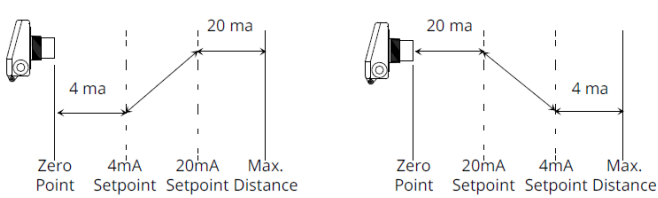

Figure 3.7
- 20 mA Set Point sets the distance at which the output is 20 mA. This distance is measured from the Zero Point. See Figures 3.7 and 3.8.
- For Distance configuration (i.e., greater mA output for target surface further from sensor), set the 4 mA Set Point to be less than the 20 mA Set Point. See Figure 3.7.
- For Fill configuration (i.e., greater mA output for target surface closer to sensor), set the 4 mA Set Point to be greater than the 20 mA Set Point. See Figure 3.7.